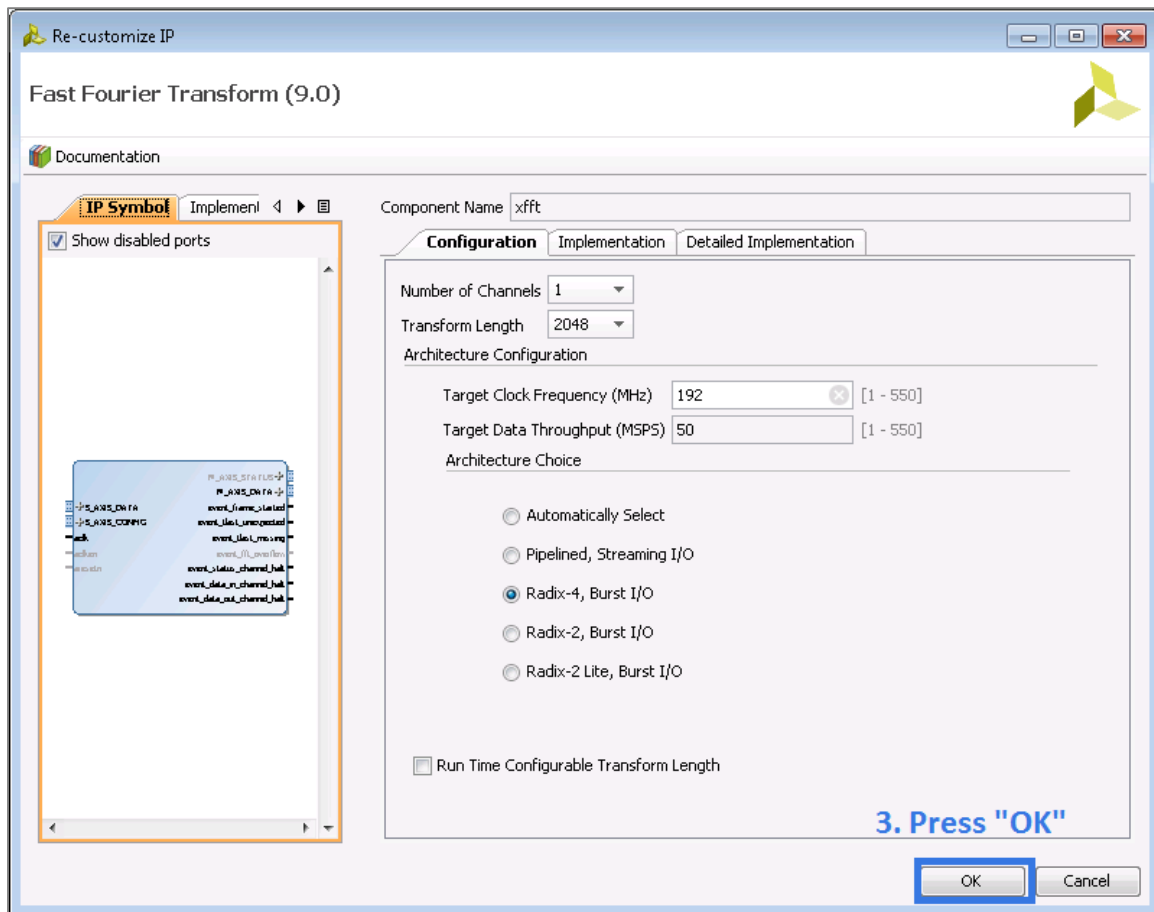

Figure 4 - How to reconfigure a Xilinx IP Core (2)
6. Inside the "Re-customize IP" dialog, leave the pre-configured settings untouched, and click **OK** as shown in Figure 4.